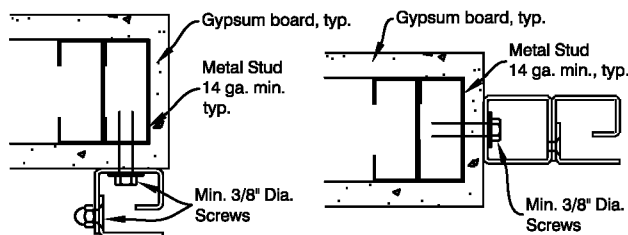

Fig. 6
c. When fastening to a double(2) metal stud jamb, each stud is to be minimum of 14 gauge. Fasten using a min. of 3/8" dia. self-tapping screws, as shown in Fig. 6.